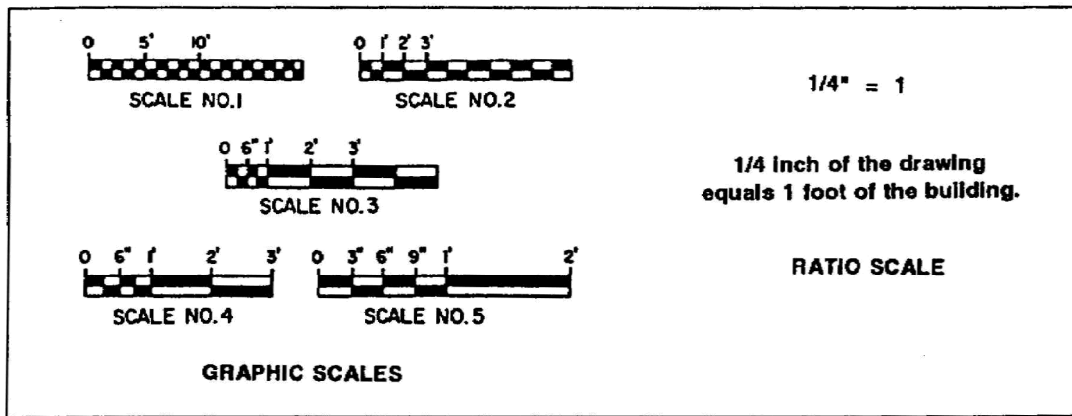

Figure 1-2. Graphic and ratio scales
c. Graphic and Ratio Scales. Because of the sizes of the objects being represented, different scales are used for drawings (Figure 1-2).